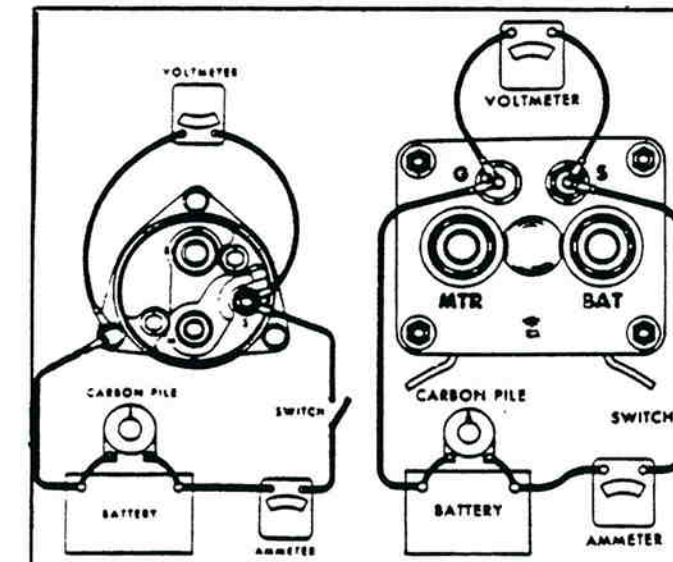

Figure 7-40. Checking Solenoid Hold-In Winding.
16. As shown in figure 7-40, make connections to the "S" terminal and a clean metal ground. If needed, use the carbon pile to decrease the battery voltage to the value specified in the following table and compare the ammeter reading with the hold-in winding specifications. A high reading indicates a defective winding (shorted or grounded hold-in, or a grounded pull-in), and a low reading indicates excessive resistance.